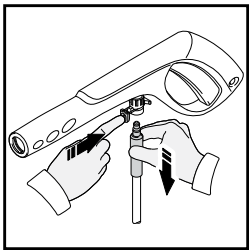

Fig. 23
- The GHA should be stored in the accessory holder when your unit is not in use to prevent loss or damage (Fig. 23).